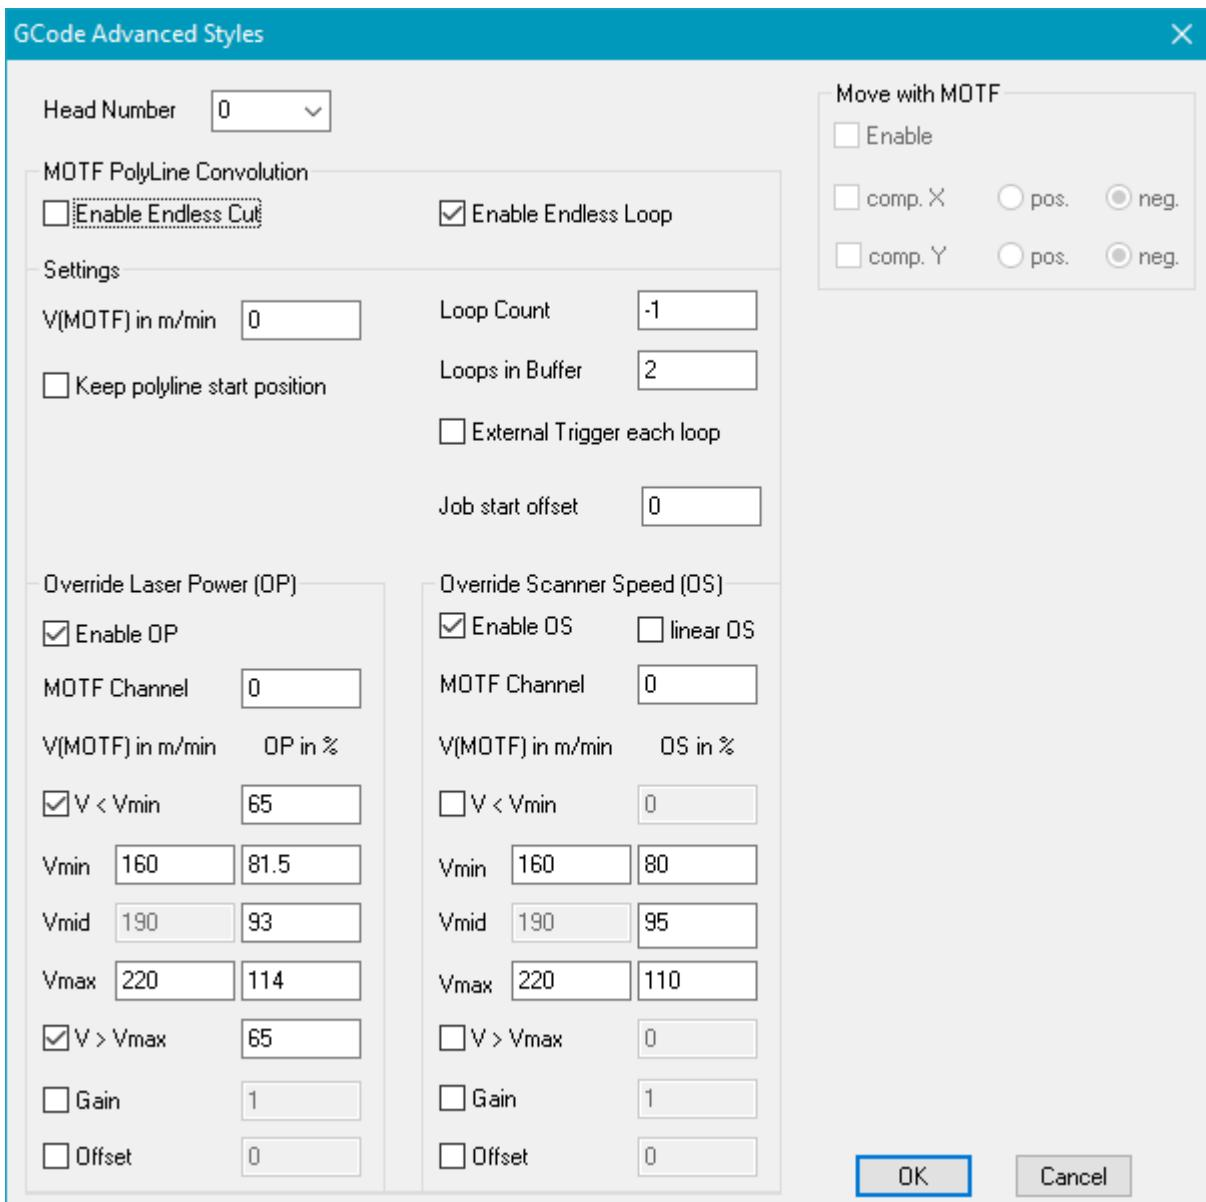

Figure 268: Endless MOTF Dialog
- a. either while being exported as CNC with the advanced option of endless cut or endless loop (*File → Export*, choose *GCode Files (*.cnc)* as file type and open the *Advanced...* dialog; see figure 268)
- b. or while being saved to the Flash memory. (*Extras → Flash*, activate the checkbox *SJF → CNC → UNF* and open the *settings* dialog on the right; see figure 268).
The following endless MOTF dialog (figure 268) can be reached via *Extras → Flash*, activation of the checkbox *SJF → CNC → UNF* and opening of the *Settings* dialog on the right.